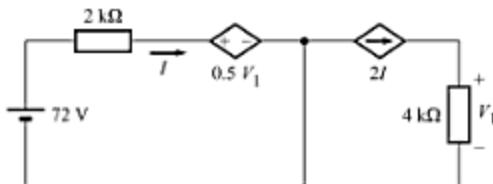

Fig. A-92
- A-56. Calculate voltage V_1 in the circuit of Fig. A-92. [Ans. $96\ V$]